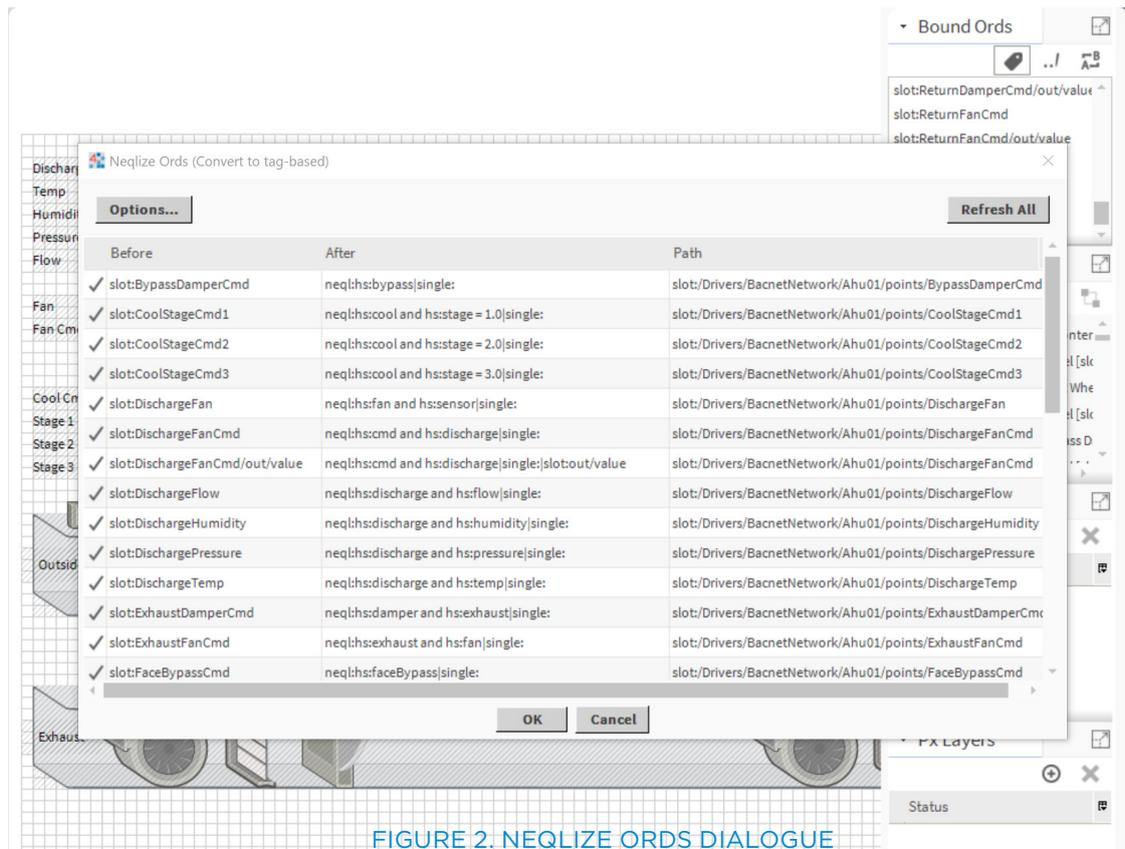

FIGURE 2. NEQLIZE ORDS DIALOGUE
- ▶ Neqlize Ords automatically converts direct or relative ORDs to a NEQL based ORD and will save considerable time when incorporating tags in your Niagara visualizations (Figure 2).